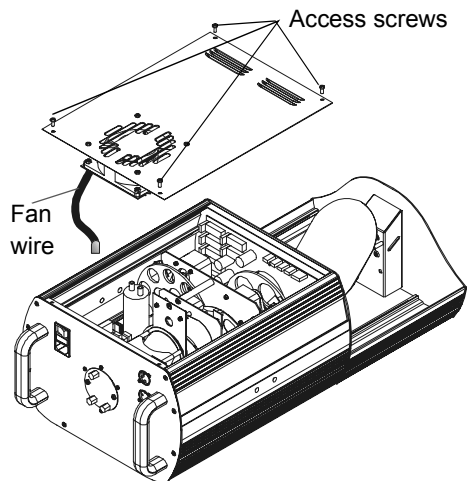

Figure 2-1 Removing access door.
1. Lay the fixture on its back and locate the door retaining screws, as shown in Figure 2-1. Remove the screws and lift the access door off the fixture.
2. If the door is not off, lay the fixture on its back and locate the door retaining screws, as shown in Figure 2-1 on page 2-1. Remove the screws and carefully lift the access door off the fixture.
3. Locate the connector board (A) and unplug fan wire from connector (B).
4. Locate the 6-position terminal block (C) on the connector board. Leave the wire to 0 VAC attached. Move the voltage wire to the appropriate terminal position.